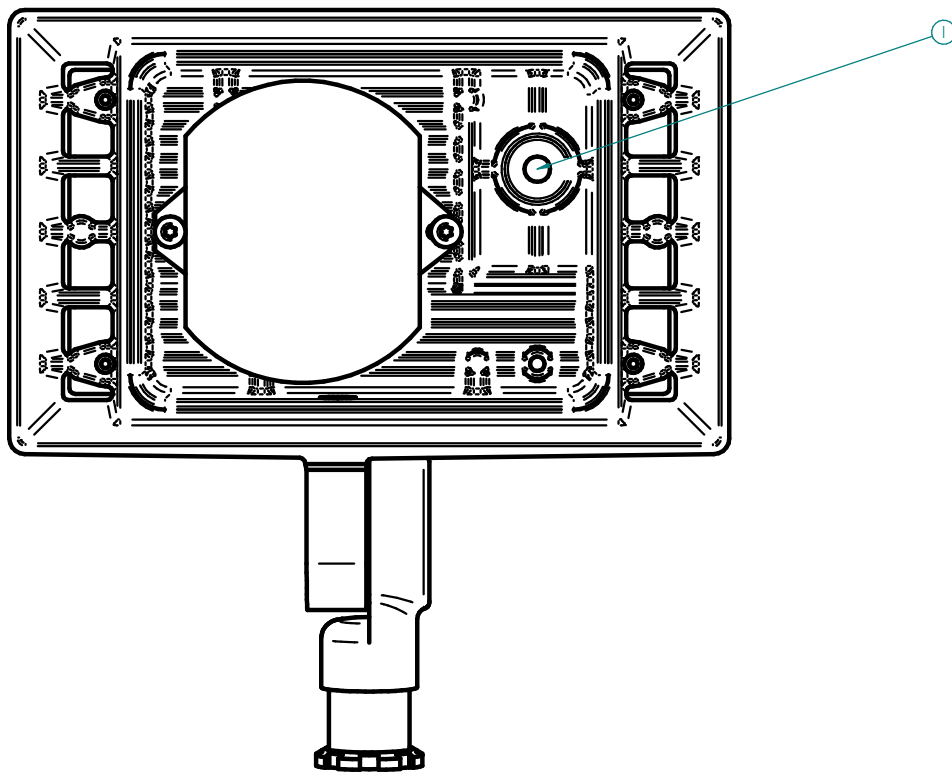

FIGURE 2
- Remove the front plate and drill an 11/16" (0.6875") diameter hole on the location provided (Item 1, Fig 2).